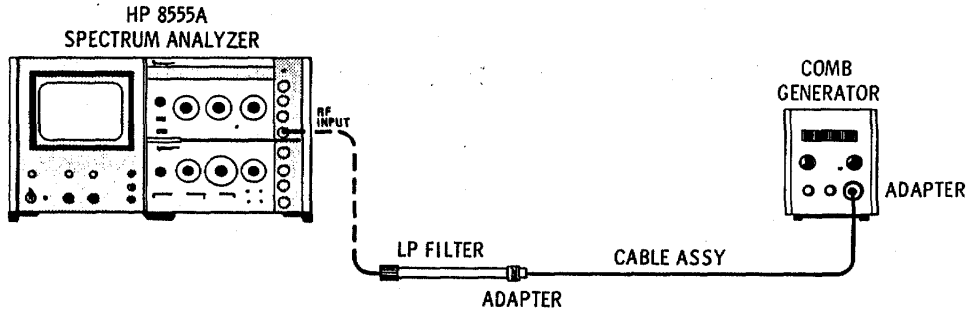

Figure 4-9. Residual FM Test Setup
- Set the comb generator for a 100 MHz comb and connect the test setup shown in Figure 4-9. Set the analyzer controls as follows: